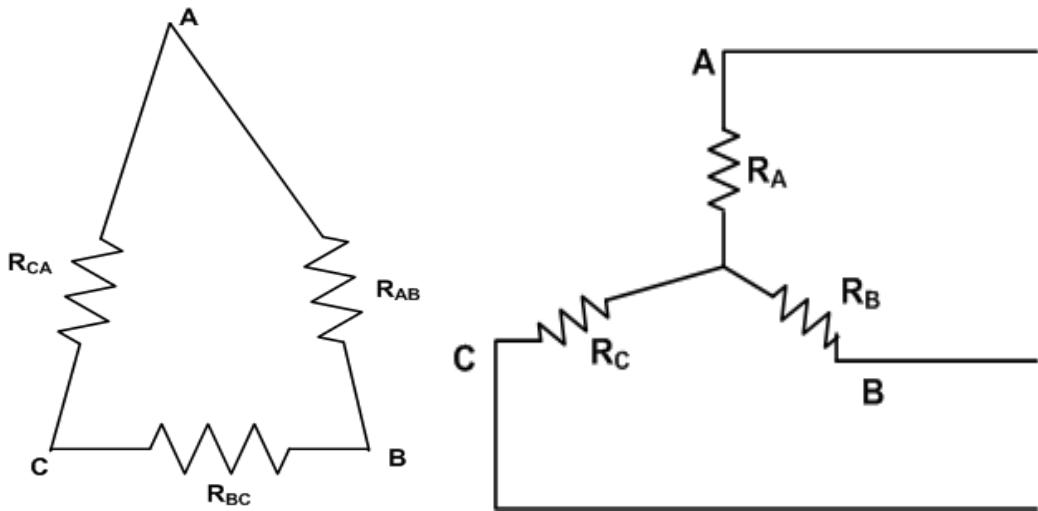

Fig. 1.4.1.
1.4.1. **Delta to Star Conversion**:- From Fig. 1.4.1 (a),  $\Delta$  : Between A & B, there are two parallel paths.
From Fig. 1.4.1 (b), STAR: Between A & B two series resistances are there  $R_A + R_B$ . So, terminal resistances have to be the same.